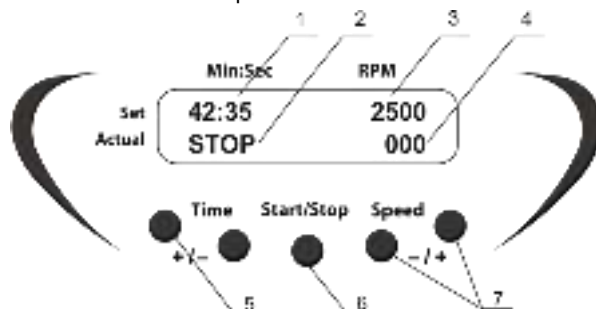

Figure 1. Control panel
- 5.4. Use the + and - **Speed** keys (fig. 1/7) to set the required speed (increment - 100 rpm). Holding down the key for longer than 2 s increases value change speed. The set value is displayed in the upper line of the display (fig. 1/3).
- 5.5. Use the + and - **Time** keys (fig. 1/5) to set the required working time interval in min & sec (increment - 1 min). Holding down the key for longer than 2 s increases value change speed. The set value is displayed in the upper line of the display (fig. 1/1).
- 5.6. Press the **Start/Stop** key (fig. 1/6). The platform will start vortexing and the timer indicator will start counting the time interval in the lower line of the display - **Actual** (fig. 1/2).
- 5.7. If the working time is not set (or is reset) and the display shows 00:00, pressing the **Start/Stop** key will cause the unit to operate continuously until the **Start/Stop** key is pressed. Actual value of the platform speed is displayed in the lower line of the display (fig. 1/4)
- 5.8. After finishing of the program (after the set time elapses) the platform motion will stop and flashing reading "STOP" will appear in the lower line of the display accompanied by the repetitive sound signal until the **Start/Stop** (fig. 1/7) key is pressed.